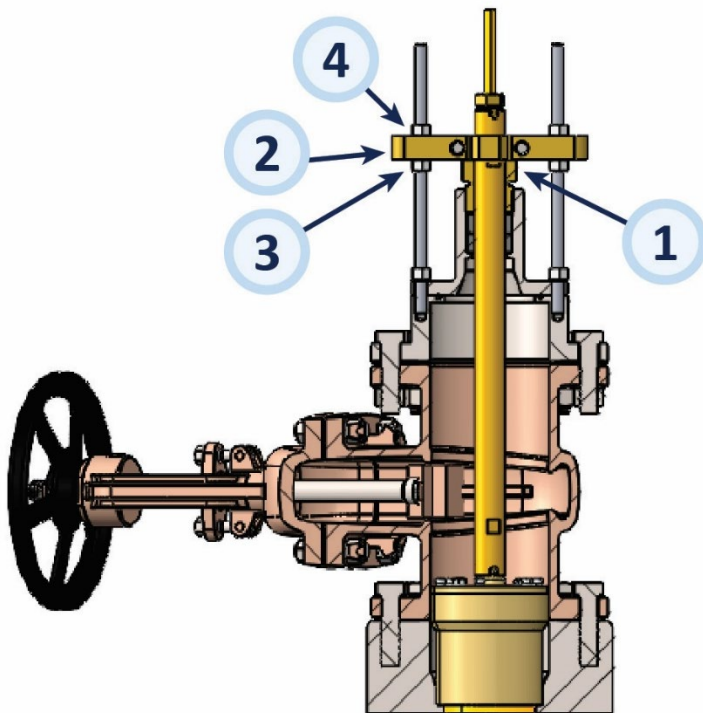

Figure 11 - Final assembly
2. Open the sea valve, lower the sensor unit and extension tube. See Figure 11 for lowering height information. Dimensions are shown as a range because gasket compression varies during installation.